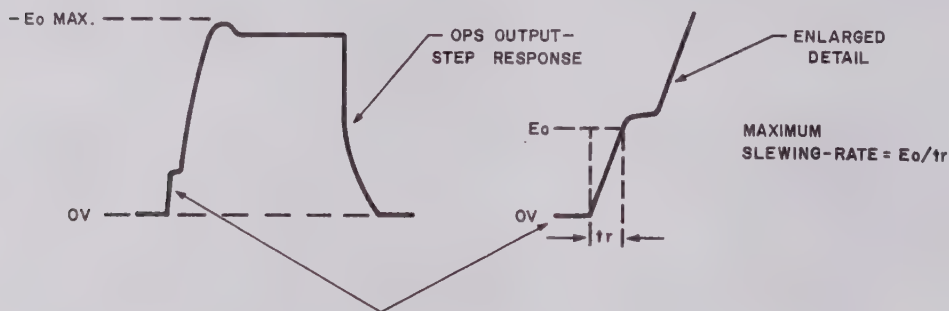

FIG. 5-6 OUTPUT WAVEFORM FOR SLEWING RATE MEASUREMENTS.
- 2) To measure the MAXIMUM SLEWING RATE, *increase* the gain of the square-wave generator at the input (E_i) until a *distinct breakpoint* in the up-slope of the output waveform becomes visible. The slope from "OV" to this breakpoint is the fastest rate of change of which the OPS under test is capable. Make certain that this true, by slightly increasing the gain of the square-wave generator. The slope (E_o/t_r) should not change. (Refer to FIG. 5-6.)